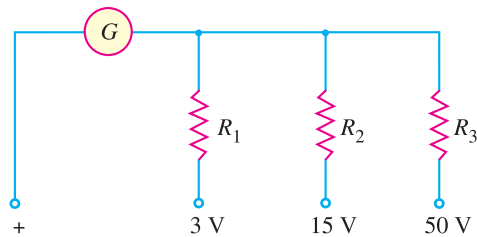

Fig. 22.29
2. The three range voltmeter is arranged as shown in Fig. 22.29. The ranges are 0 to 3 V , 0 to 15 V and 0 to 50 V as marked. If the full scale deflection current is 10 mA , what should be the values of R_1 , R_2 and R_3 ? The resistance of the meter is $5\ \Omega$.